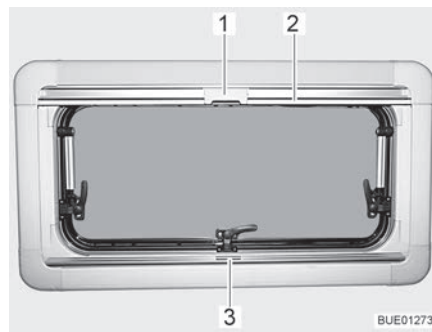
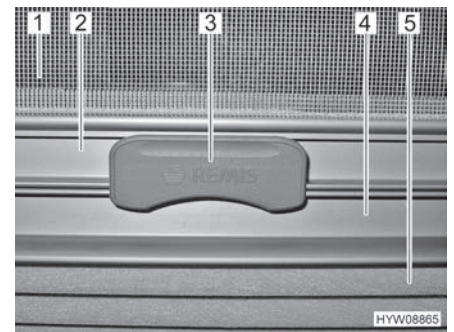

Fig. 22 Hinged window
Fig. 23 Catch
Roman shade The Roman shade (Fig. 23,5) is located in the lower blind box.
- Seize the Roman shade by the centre of the holding bar (Fig. 22,3 and Fig. 23,4), pull it from the bottom to the top and release it at the desired height. The Roman shade will stay at this height.
Insect screen The insect screen (Fig. 23,1) is located in the upper blind box.
- Pull the insect screen down by the holding bar (Fig. 22,2 and Fig. 23,2), until it touches the holding bar of the Roman shade (Fig. 23,4).
- Clip the catch (Fig. 22,1 and Fig. 23,3) on the insect screen into the holding bar of the Roman shade. When the catch is locked, the Roman shade and the insect screen can be adjusted together.
- Push the catch (Fig. 23,3) on the insect screen upward.
- Move the insect screen back slowly on the holding bar (Fig. 22,2).